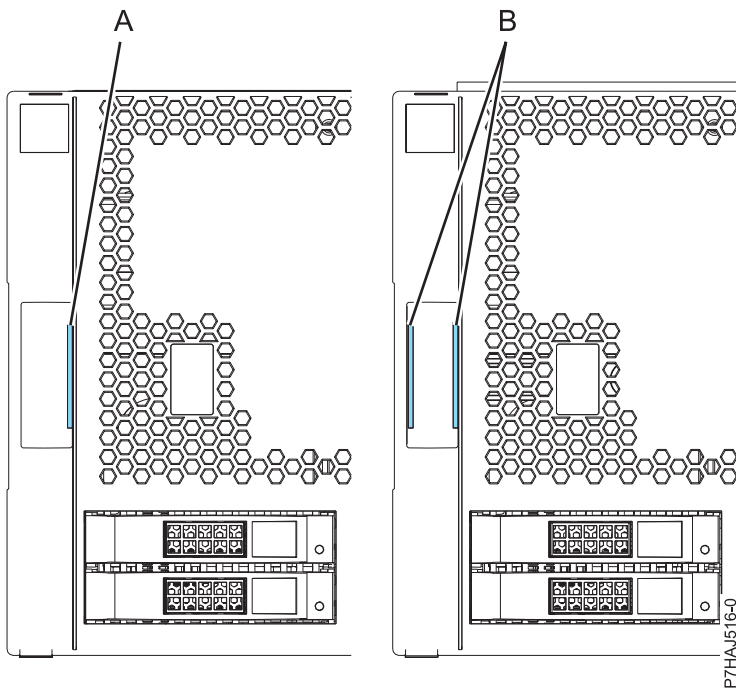

Figure 95. Identifying the older and newer covers
**Note:** The older covers that were shipped before 1 March 2011 can be identified by a single blue stripe (A) on the cover assembly latches. Newer covers that were shipped after 1 March 2011 have two blue stripes (B) on the cover assembly latches. See Figure 95 on page 120.